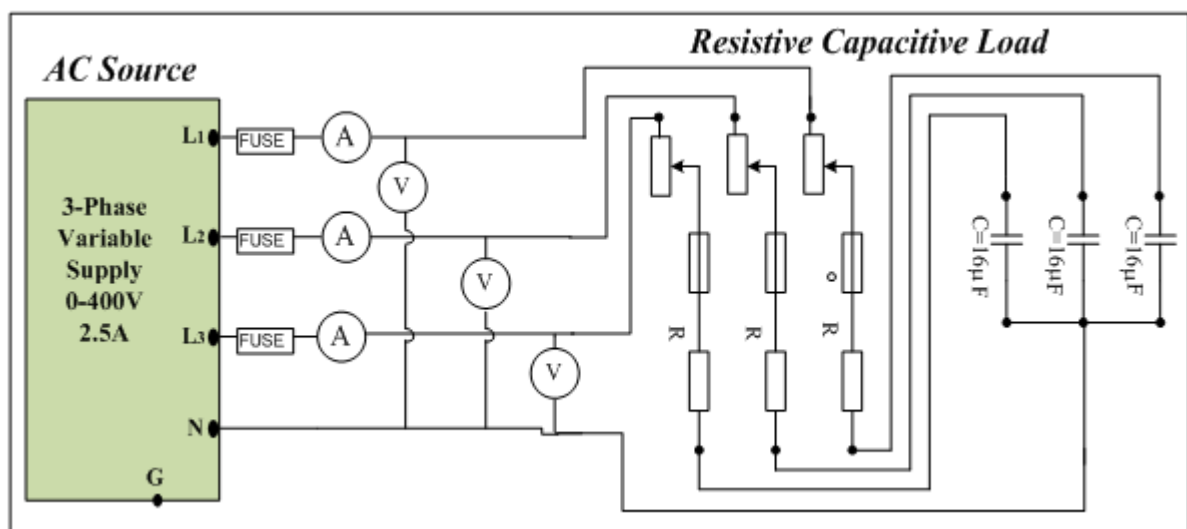

Figure 4 Y-Connected Resistive Capacitive Load
7. Repeat steps 3 to 6 for the circuit given in Fig. 4 then enter the simulation data values in Table 5 and table 6.
9. Build the circuit of Fig. 4 with the hardwired components. Take the measurements of voltages, currents, power factor (from step 7) real power, reactive power and frequency measurements then record them in Table 5 and table 6. Considering the Workbench results as the base, compute the percentage errors.
Table 5: Simulation and experimental results for Fig. 4